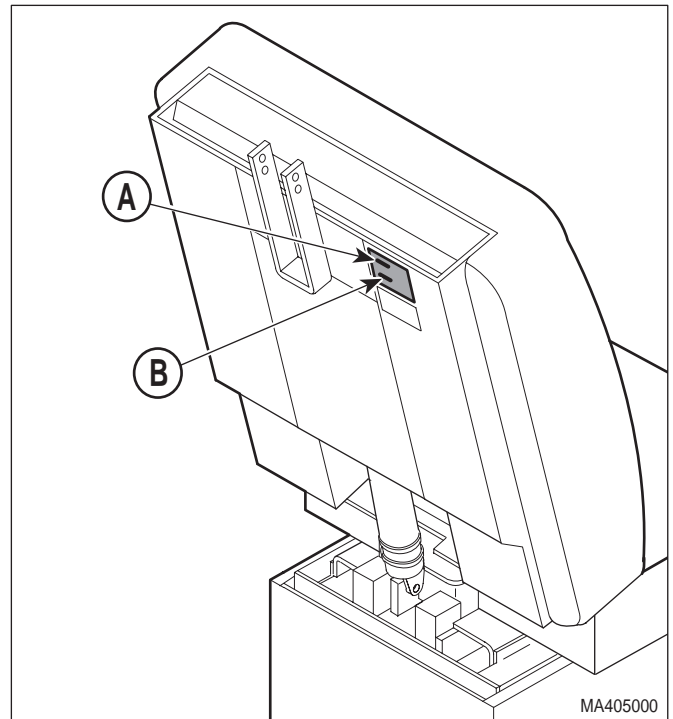

Figure 1-3. Model Number / Serial Number Location
- (1) Refer to Figure 1-3 to determine the location of the model number and serial number of the table and record this data.